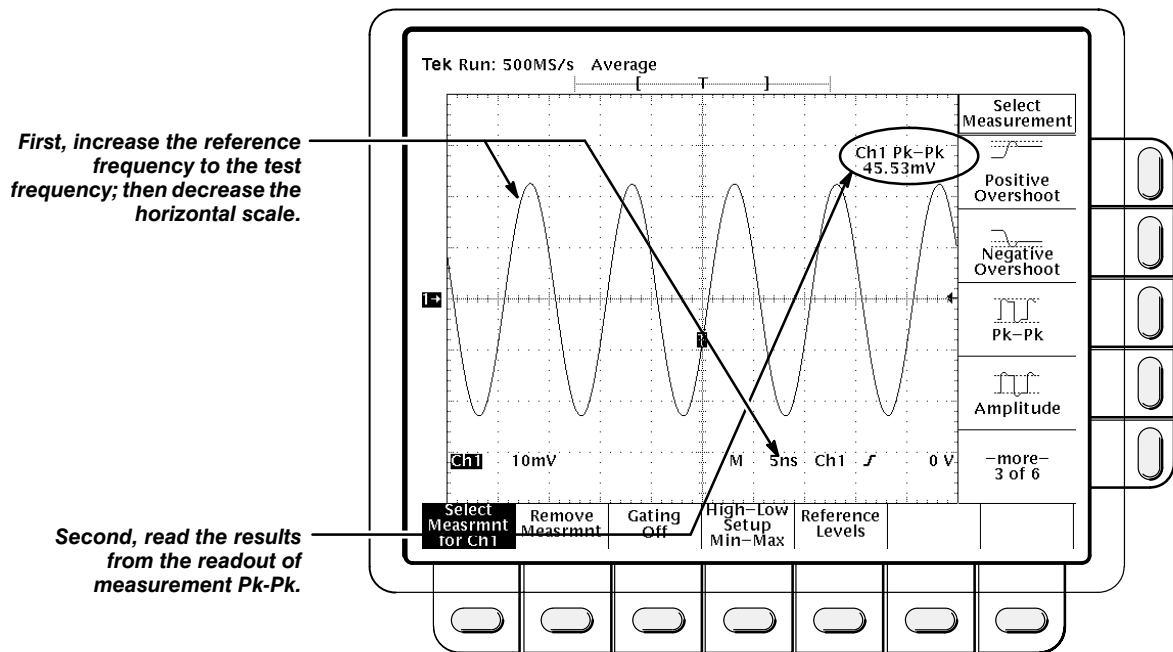

Figure 4-6: Measuring Analog Bandwidth
13. Check that the **Pk-Pk** readout on screen (as shown in Figure 4-6) is  $\geq 42.5$  mV.